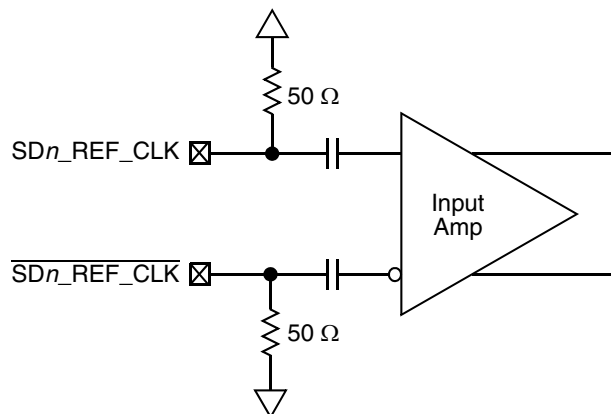

Figure 41. Receiver of SerDes Reference Clocks
Figure 41 shows a receiver reference diagram of the SerDes reference clocks.
- The SDn_REF_CLK and $\overline{SDn_REF_CLK}$ are internally AC-coupled differential inputs as shown in Figure 41. Each differential clock input (SDn_REF_CLK or $\overline{SDn_REF_CLK}$) has a 50- Ω termination to $SGND_SRDSn$ (xcorevss) followed by on-chip AC-coupling.